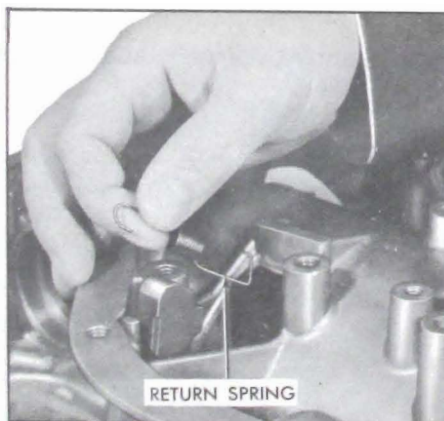

Figure 5-529
16. Remove parking pawl return spring. See Figure 5-529.